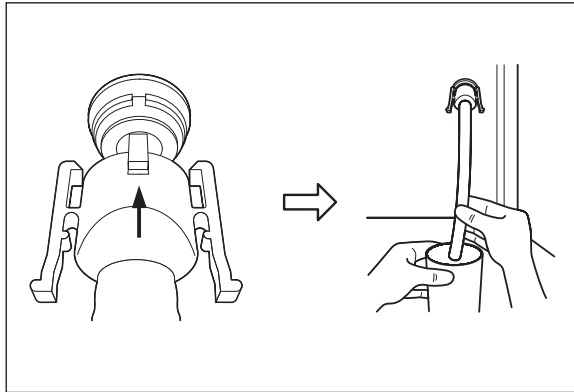

Figure 7.67
- Put the tube-side end of the disinfectant removal tube in the container (small), and connect the disinfectant removal tube to the disinfectant removal port to drain the small amount of residual disinfectant solution from the disinfectant solution tank (see Figure 7.67).